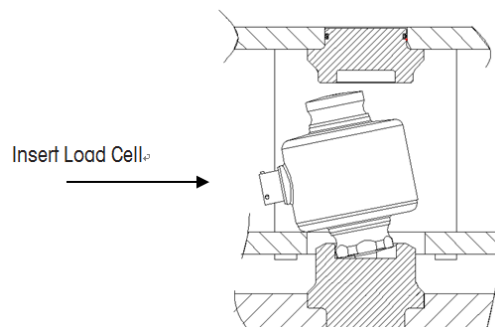

Figure 3-2: Load cell installation (end view)
4. Tilt the load cell (with the cable entry facing down) and insert its lower button into the lower receiver (see Figure 3-2). Stand the load cell upright so that it is aligned with the upper receiver.
- Tilt the load cell (with the cable entry facing down) and insert its lower button into the lower receiver (see Figure 3-2). Stand the load cell upright so that it is aligned with the upper receiver